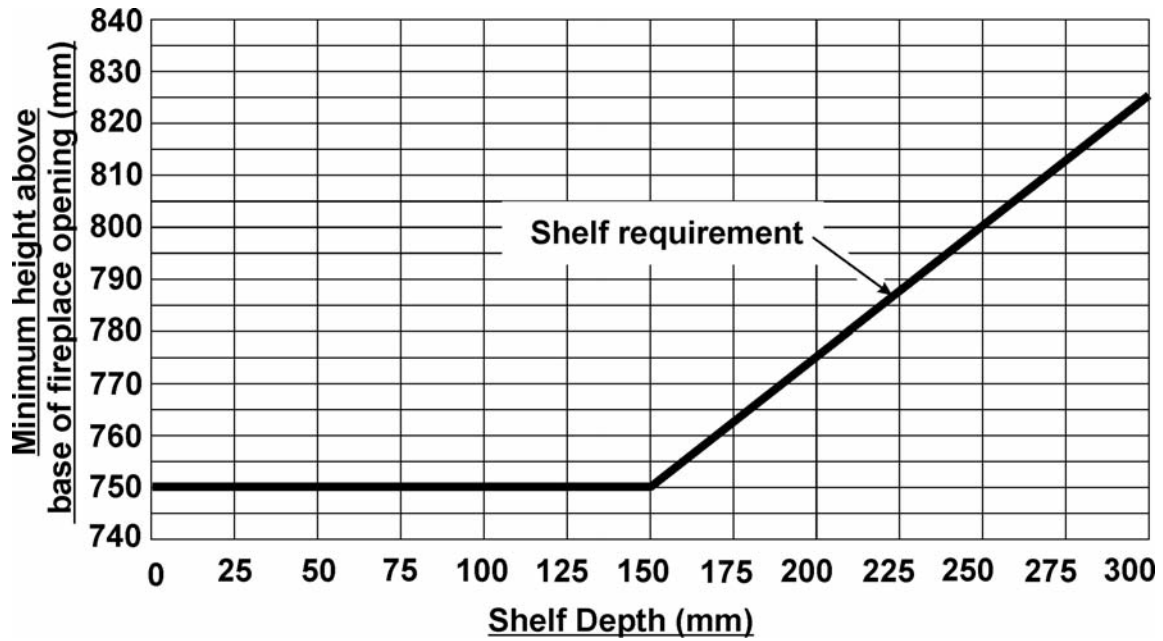

Figure 3. Combustible shelf clearances
- For a shelf deeper than 150mm: 750mm + 12.5mm for every 25mm depth over 150mm (See Figure 3).